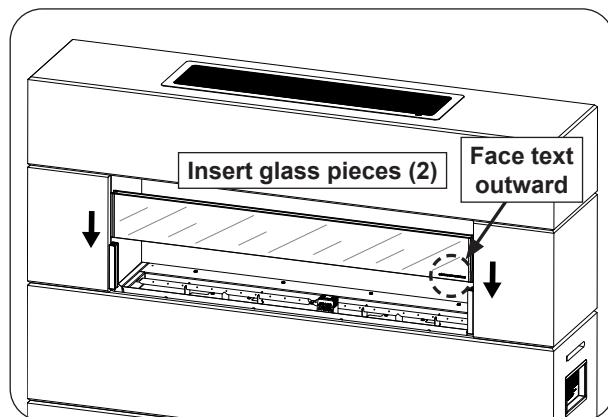

Fig. 33-3 Insert wind guard glass pieces
3. Insert the two glass pieces as shown in Fig. 33-3.